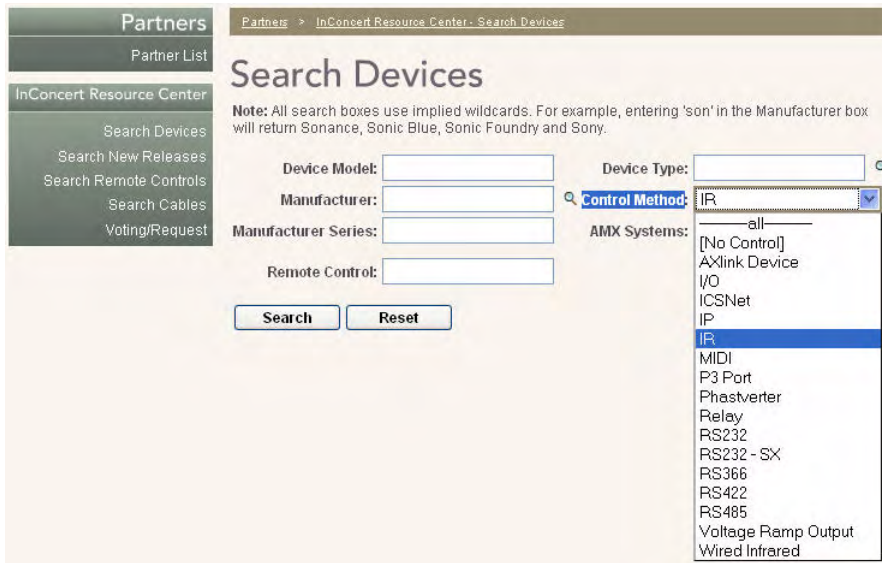

FIG. 46 Control Method drop-down menu
- In the *Control Method* drop-down, select **IR** (FIG. 46).